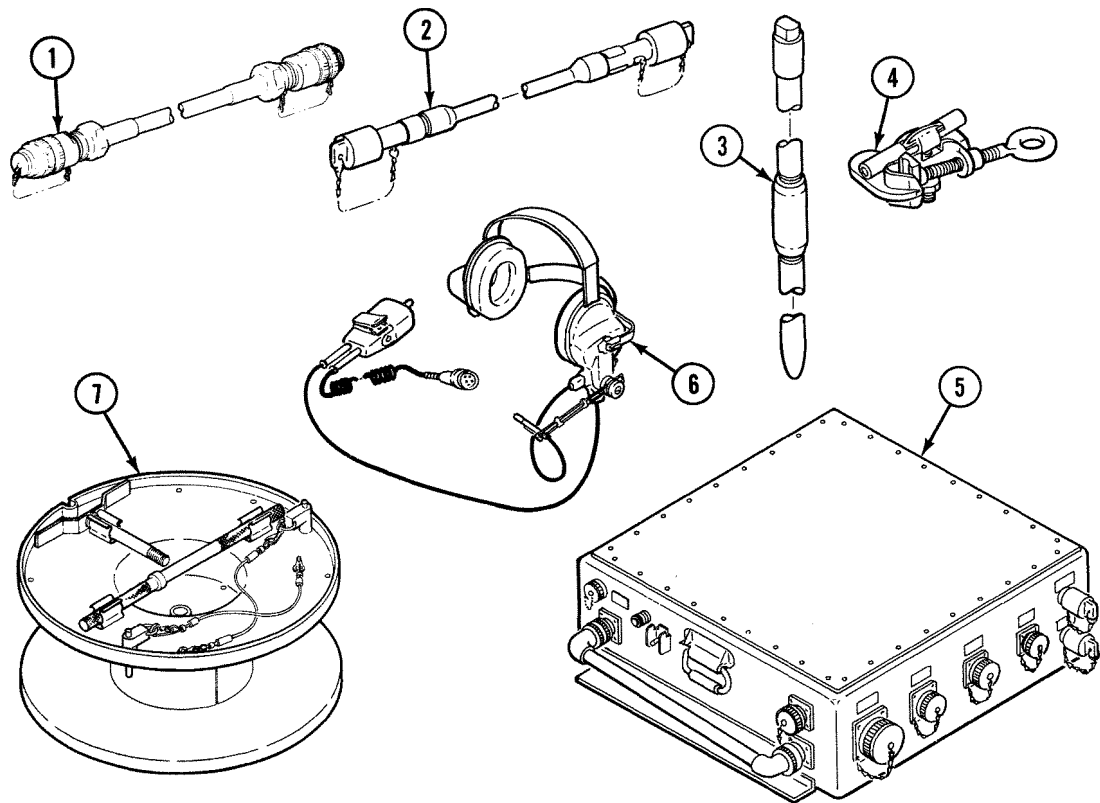

Figure 2-47. Forward Area Cable Set Major Features
a. Forward Area Cable Set. The forward area cable set connects forward area equipment. It is stored in the auxiliary vehicle. Figure 2-47 shows forward area cable set major features.